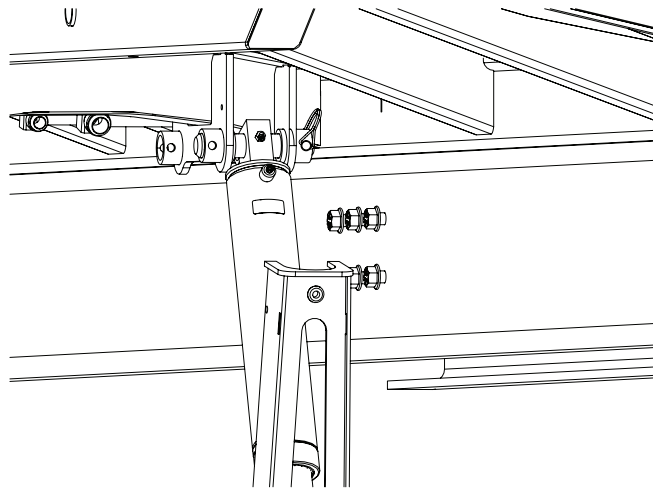

Figure 1
2. Locate the body service lifts under the vehicle body (Figure 1).